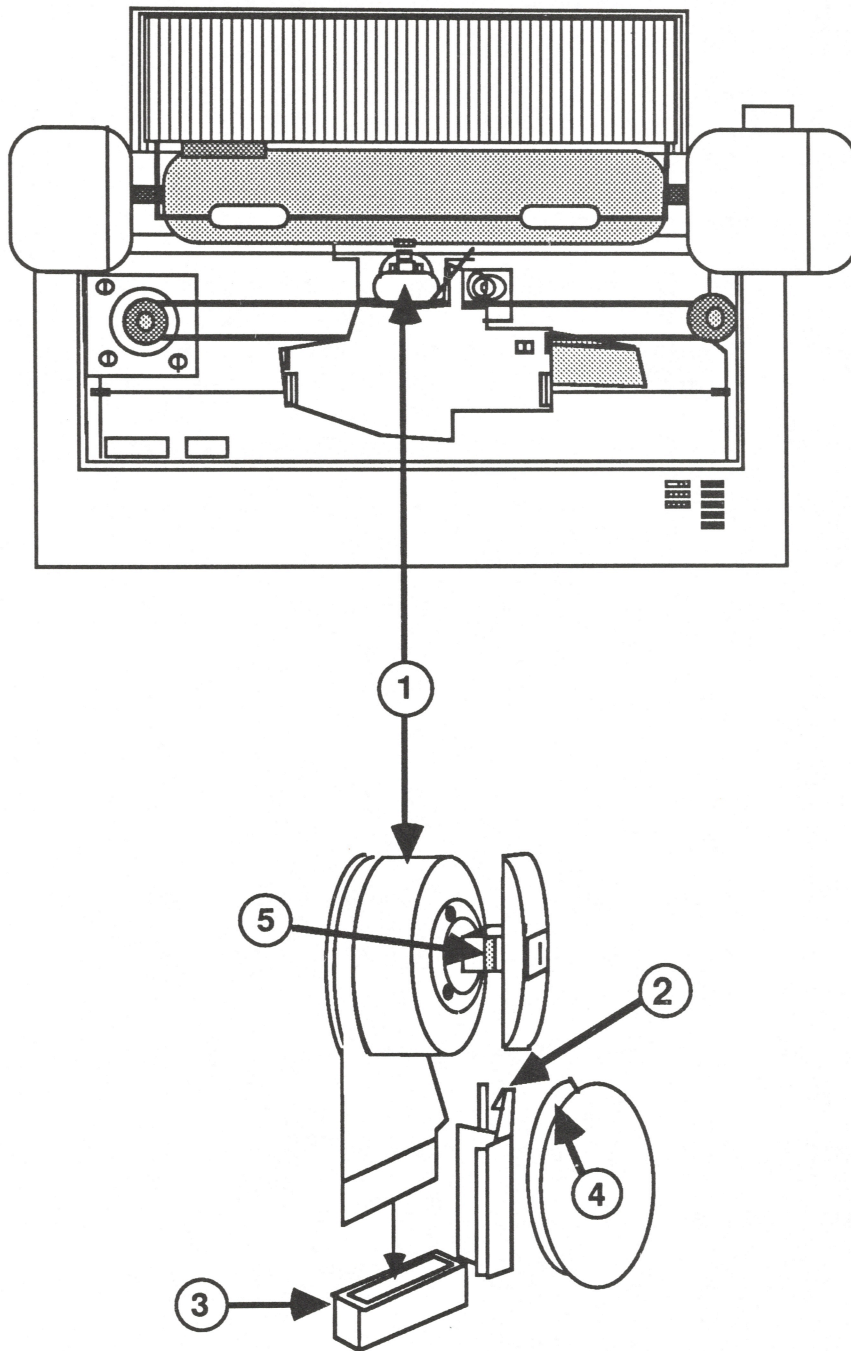

FIGURE 5
3. Locate the print head (see Figure 5, #1).
4. Gently push aside the white clip (see Figure 5, #2), grasp the print head and slowly lift it straight up and out of the connector.
1. Line the metal connector "fingers" of the print head up with the connector (see Figure 5, #3).
2. Line the front oblong portion up so that it goes between the clear plastic card holder covering the platen (see Figure 5, #4) and the print head clamp (see Figure 5, #2). The print head clamp goes over the indentations on the print head (see Figure 5, #5).